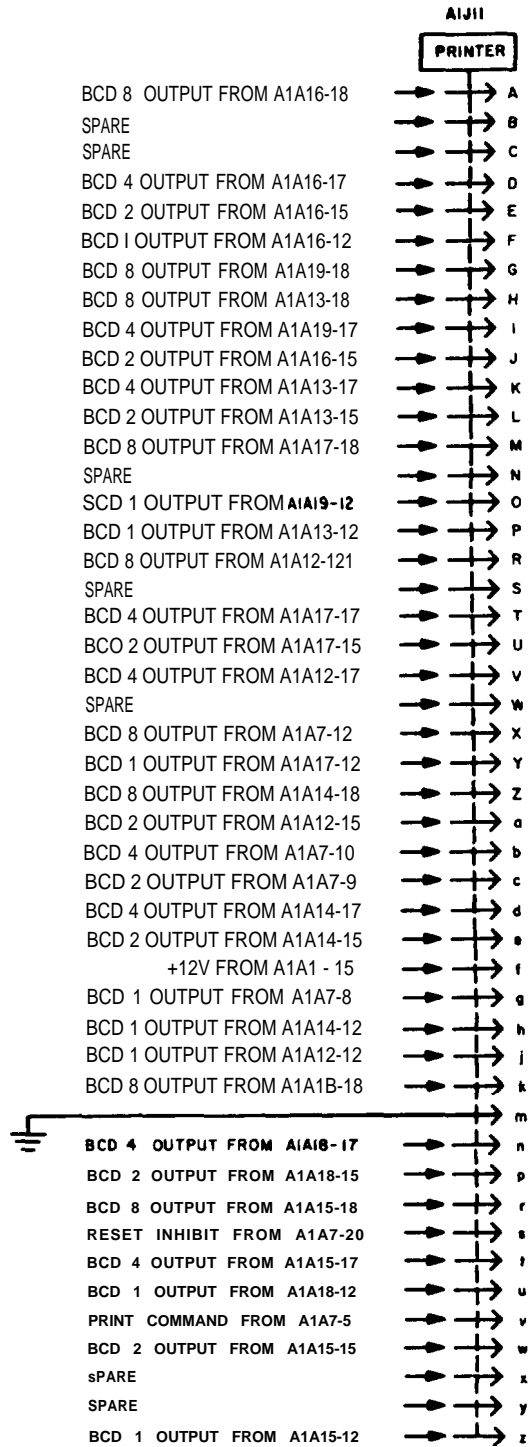

Figure 5-76. Count Decades, Printer Connector, Schematic Diagram
- Counter portions of assemblies A1A12 through A1A18 are identical and are represented by figure 5-76.